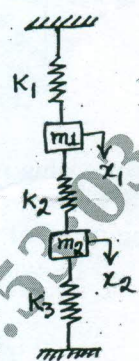

Fig.Q6(a)
- 6 a. Derive expressions for natural frequencies of the system shown in the Fig.Q6(a) and sketch the mode shapes. (12 Marks)